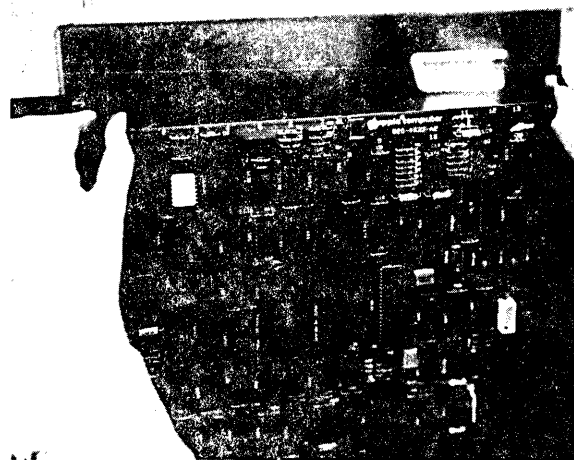

FIGURE 18
4. Place one thumb on either lever and simultaneously flip up the colored locking levers at the top of the board; then pull the board up and out of its slot. (See Figure 18.)